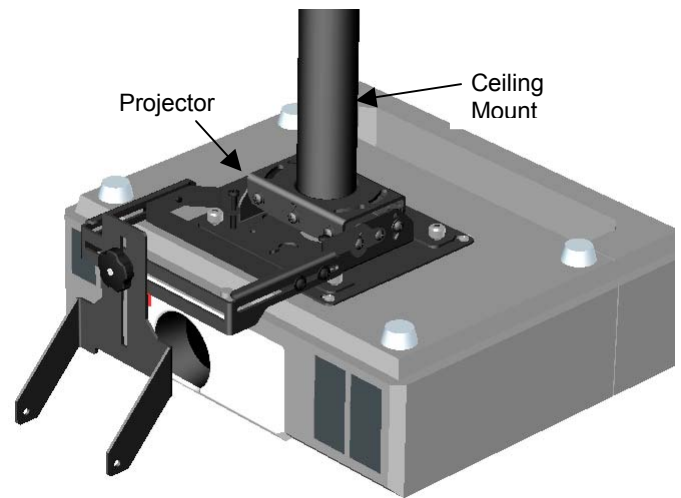
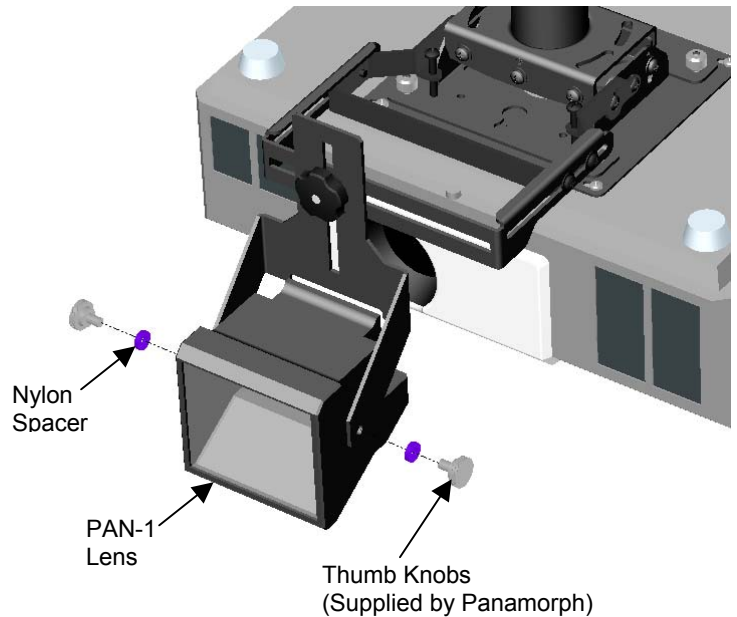

Figure 8. Install Projector on Ceiling Mount
Figure 9. Install PAN-1 Lens
1. With an assistant, install your projector back on the ceiling mount at this time. Secure all thumbnuts and audio/video cables. Do not restore power to the projector at this time. See Figure 8.
- a. Align the threaded holes in the PAN-1 lens with the holes in the front plate (40).
- b. Attach the PAN-1 lens using two nylon spacers (100) and two thumb knobs (supplied).
- c. Place the PAN-1 lens in the desired position and tighten the thumb knobs (see Figure 9).